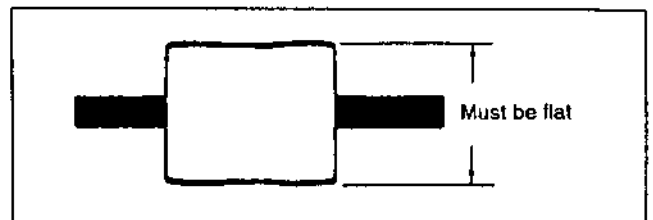

Fig. 8-3.
- 4) Confirm that the RF waveform on oscilloscope at both entrance and exit sides is flat. (See Fig. 8-3.)